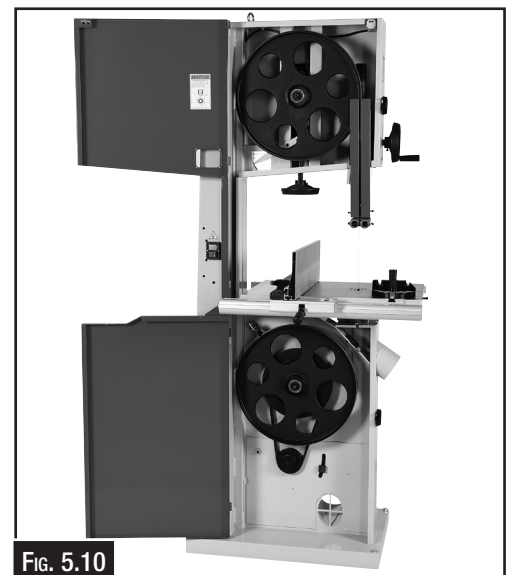

FIG. 5.10
4. Open the upper and lower wheel covers. (Fig. 5.10)